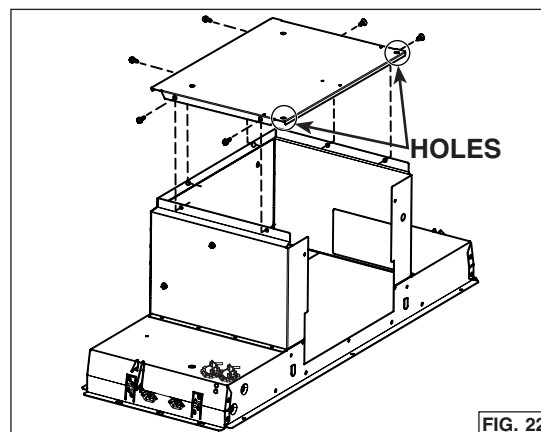

FIG. 22
8. Install the back plate on top of the unit, where the blower support plate was. Orient the holes nearby the corners towards the back of the unit. Assemble to the top of the unit using 6 screws previously removed in step 6 (FIG. 22).